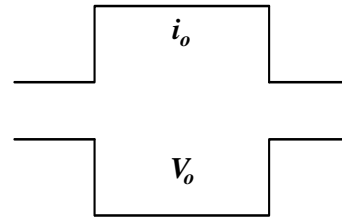

FIGURE 14. DESIRED LOAD TRANSIENT RESPONSE WAVEFORMS
Assuming the compensator design is correct, Figure 14 shows the expected load transient response waveforms if  $C_n$  is correctly selected. When the load current  $I_{core}$  has a square change, the output voltage  $V_{core}$  also has a square response.
Figure 14 shows the desired load transient response waveforms. Figure 20 shows the equivalent circuit of a voltage regulator (VR) with the droop function. A VR is equivalent to a voltage source (= VID) and output impedance  $Z_{out}(s)$ . If  $Z_{out}(s)$  is equal to the load line slope LL, i.e. constant output impedance, in the entire frequency range,  $V_o$  will have square response when  $I_o$  has a square change.